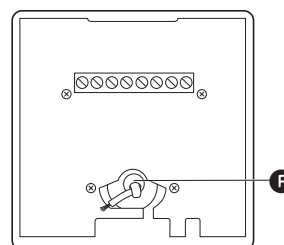

Fig. 6 Knot
- 8 Make a tight double knot **F** at the end of the string. Tighten the knot really hard to prevent it from slipping up. When the knot is secured, cut the end of the string 5–8 mm from the knot. (Fig. 6)